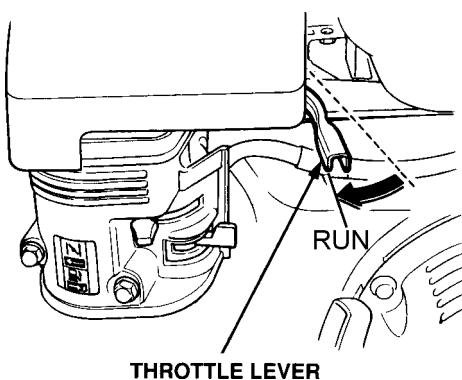

Figure 13. Throttle Lever (Run)
9. To begin pumping, place the throttle lever (Figure 13) in the "**RUN**" position.